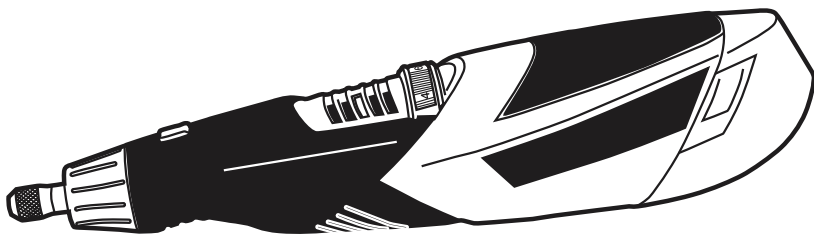

Fig.1
- B Spindle blocking button (Fig.1)
- C On/off/speed adjustment switch (Fig.1)
- H Battery release button (Fig.1)
- J Battery (Fig.1)